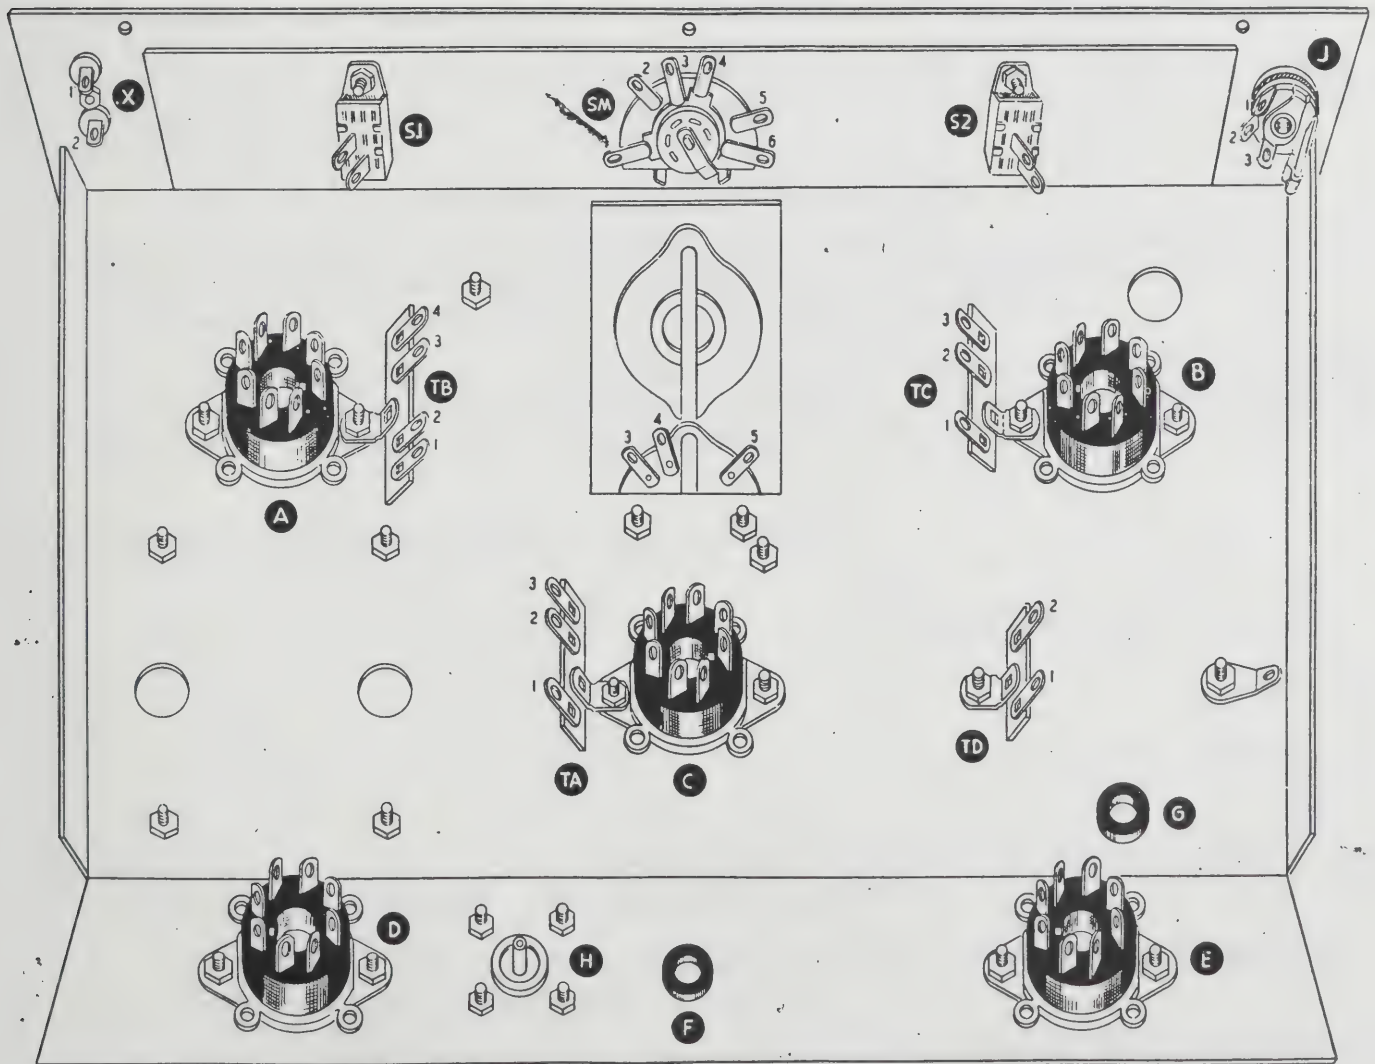

Fig. 1
4. In assembling the kit, use lockwashers under all nuts unless a solder lug is used. Tube sockets are mounted with the metal flange inside the chassis. All screws have their heads on top or outside of the chassis. This construction may be noted by referring to Figure 1. Unless otherwise stated, 6-32 screws, lockwashers and nuts are used in mounting of parts.
- ( ) Mount an octal socket in hole B with the keyway toward the center of the chassis. At the same time, mount a three-lug terminal strip under the chassis and a solder lug on top of the chassis, using the mounting screw nearest the center of the chassis as shown in Figures 1 and 2.
- ( ) Mount an octal socket in hole C with the keyway toward the right side of the chassis when viewed from the rear and a three-lug terminal strip mounted on the left hand mounting screw. Refer to Figure 1.
- ( ) Mount two octal sockets in holes D and E with their keyways as shown in Figure 1.
- ( ) Mount the filter choke on top of the chassis with the leads over the grommet G using the two mounting holes at the right rear of the chassis. Place a solder lug under the nut nearest the edge of the chassis and a two-lug terminal strip under the other nut. See Figure 1.
- (\ ) Mount the two slide switches S-1 and S-2 with their terminal lugs in the position shown in Figure 1. The mounting screws for these switches go through both the panel and the chassis and secure the chassis to the panel. Do not tighten the screws yet.
- (\ ) Mount the meter switch SM through the 3/8" hole in the center of the panel and chassis, using a 3/8" lockwasher behind the chassis and a 3/8" flatwasher and nut in front of the panel. Refer to Figure 1 for switch position and to Figure 3 for method of mounting controls.
- (\ ) Mount the phone jack in the hole provided at the right bottom of the panel, using a lockwasher, flatwasher and nut. Position as shown in Figure 1.
- (\ ) Mount the crystal holder so that the terminals protrude through the back of the panel as shown in Figure 1, using a 4-40 screw and nut.
- ( ) Connect the other lead of this condenser to the solder lug near the chassis edge (NS).
- ( ) Connect the positive lead of an 8  $\mu$ fd 350 volt condenser to C3 (NS).
- ( ) Connect the other lead of this condenser to TD1 (NS).
- ( ) Connect the positive lead of an 8  $\mu$ fd 350 volt condenser to TD1 (NS).
- ( ) Connect a 47 K $\Omega$  2 watt resistor between C3 (NS) and TD1 (NS).
- ( ) Connect a 47 K $\Omega$  2 watt resistor between TD1 (S) and the solder lug at the edge of the chassis (S).
- ( ) Connect a wire from C3 (NS) to D4 (NS).
- ( ) Connect a wire from C3 (S) to E3 (S).
- ( ) Connect one end of a wire about 16" long to E4 (S).
- ( ) Run the wire around the outside edge of the chassis as shown in Pictorial 1 and connect the other end to SM1 (NS). Refer to Figure 1 or Pictorial 1 for SM1 connection.